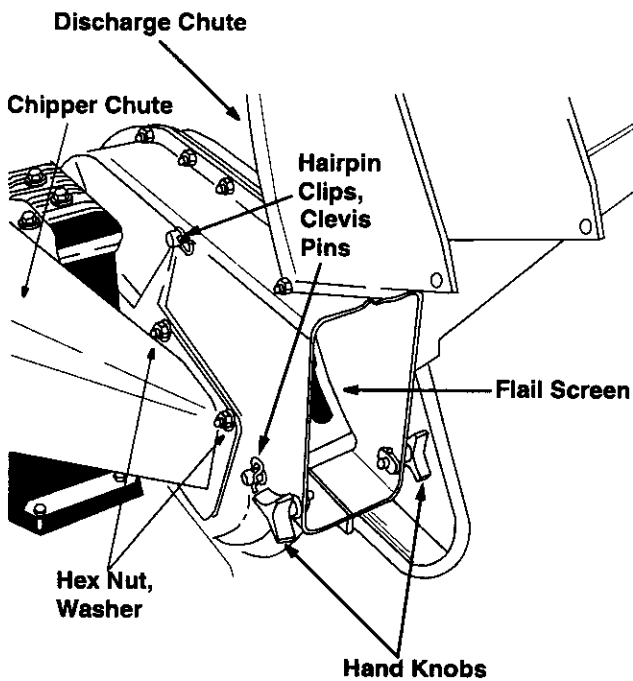

Figure 18
- Remove two hairpin clips from the clevis pins which extend through the housing. Remove the clevis pins. See figure 18.
- Pull the flail screen from inside the housing. See figure 18. Clean the screen by scraping or washing with water.
- Using a 1/2" wrench, remove the chipper chute by removing three hex nuts and washers. See figure 18. (Only two hex nut positions shown in figure.)